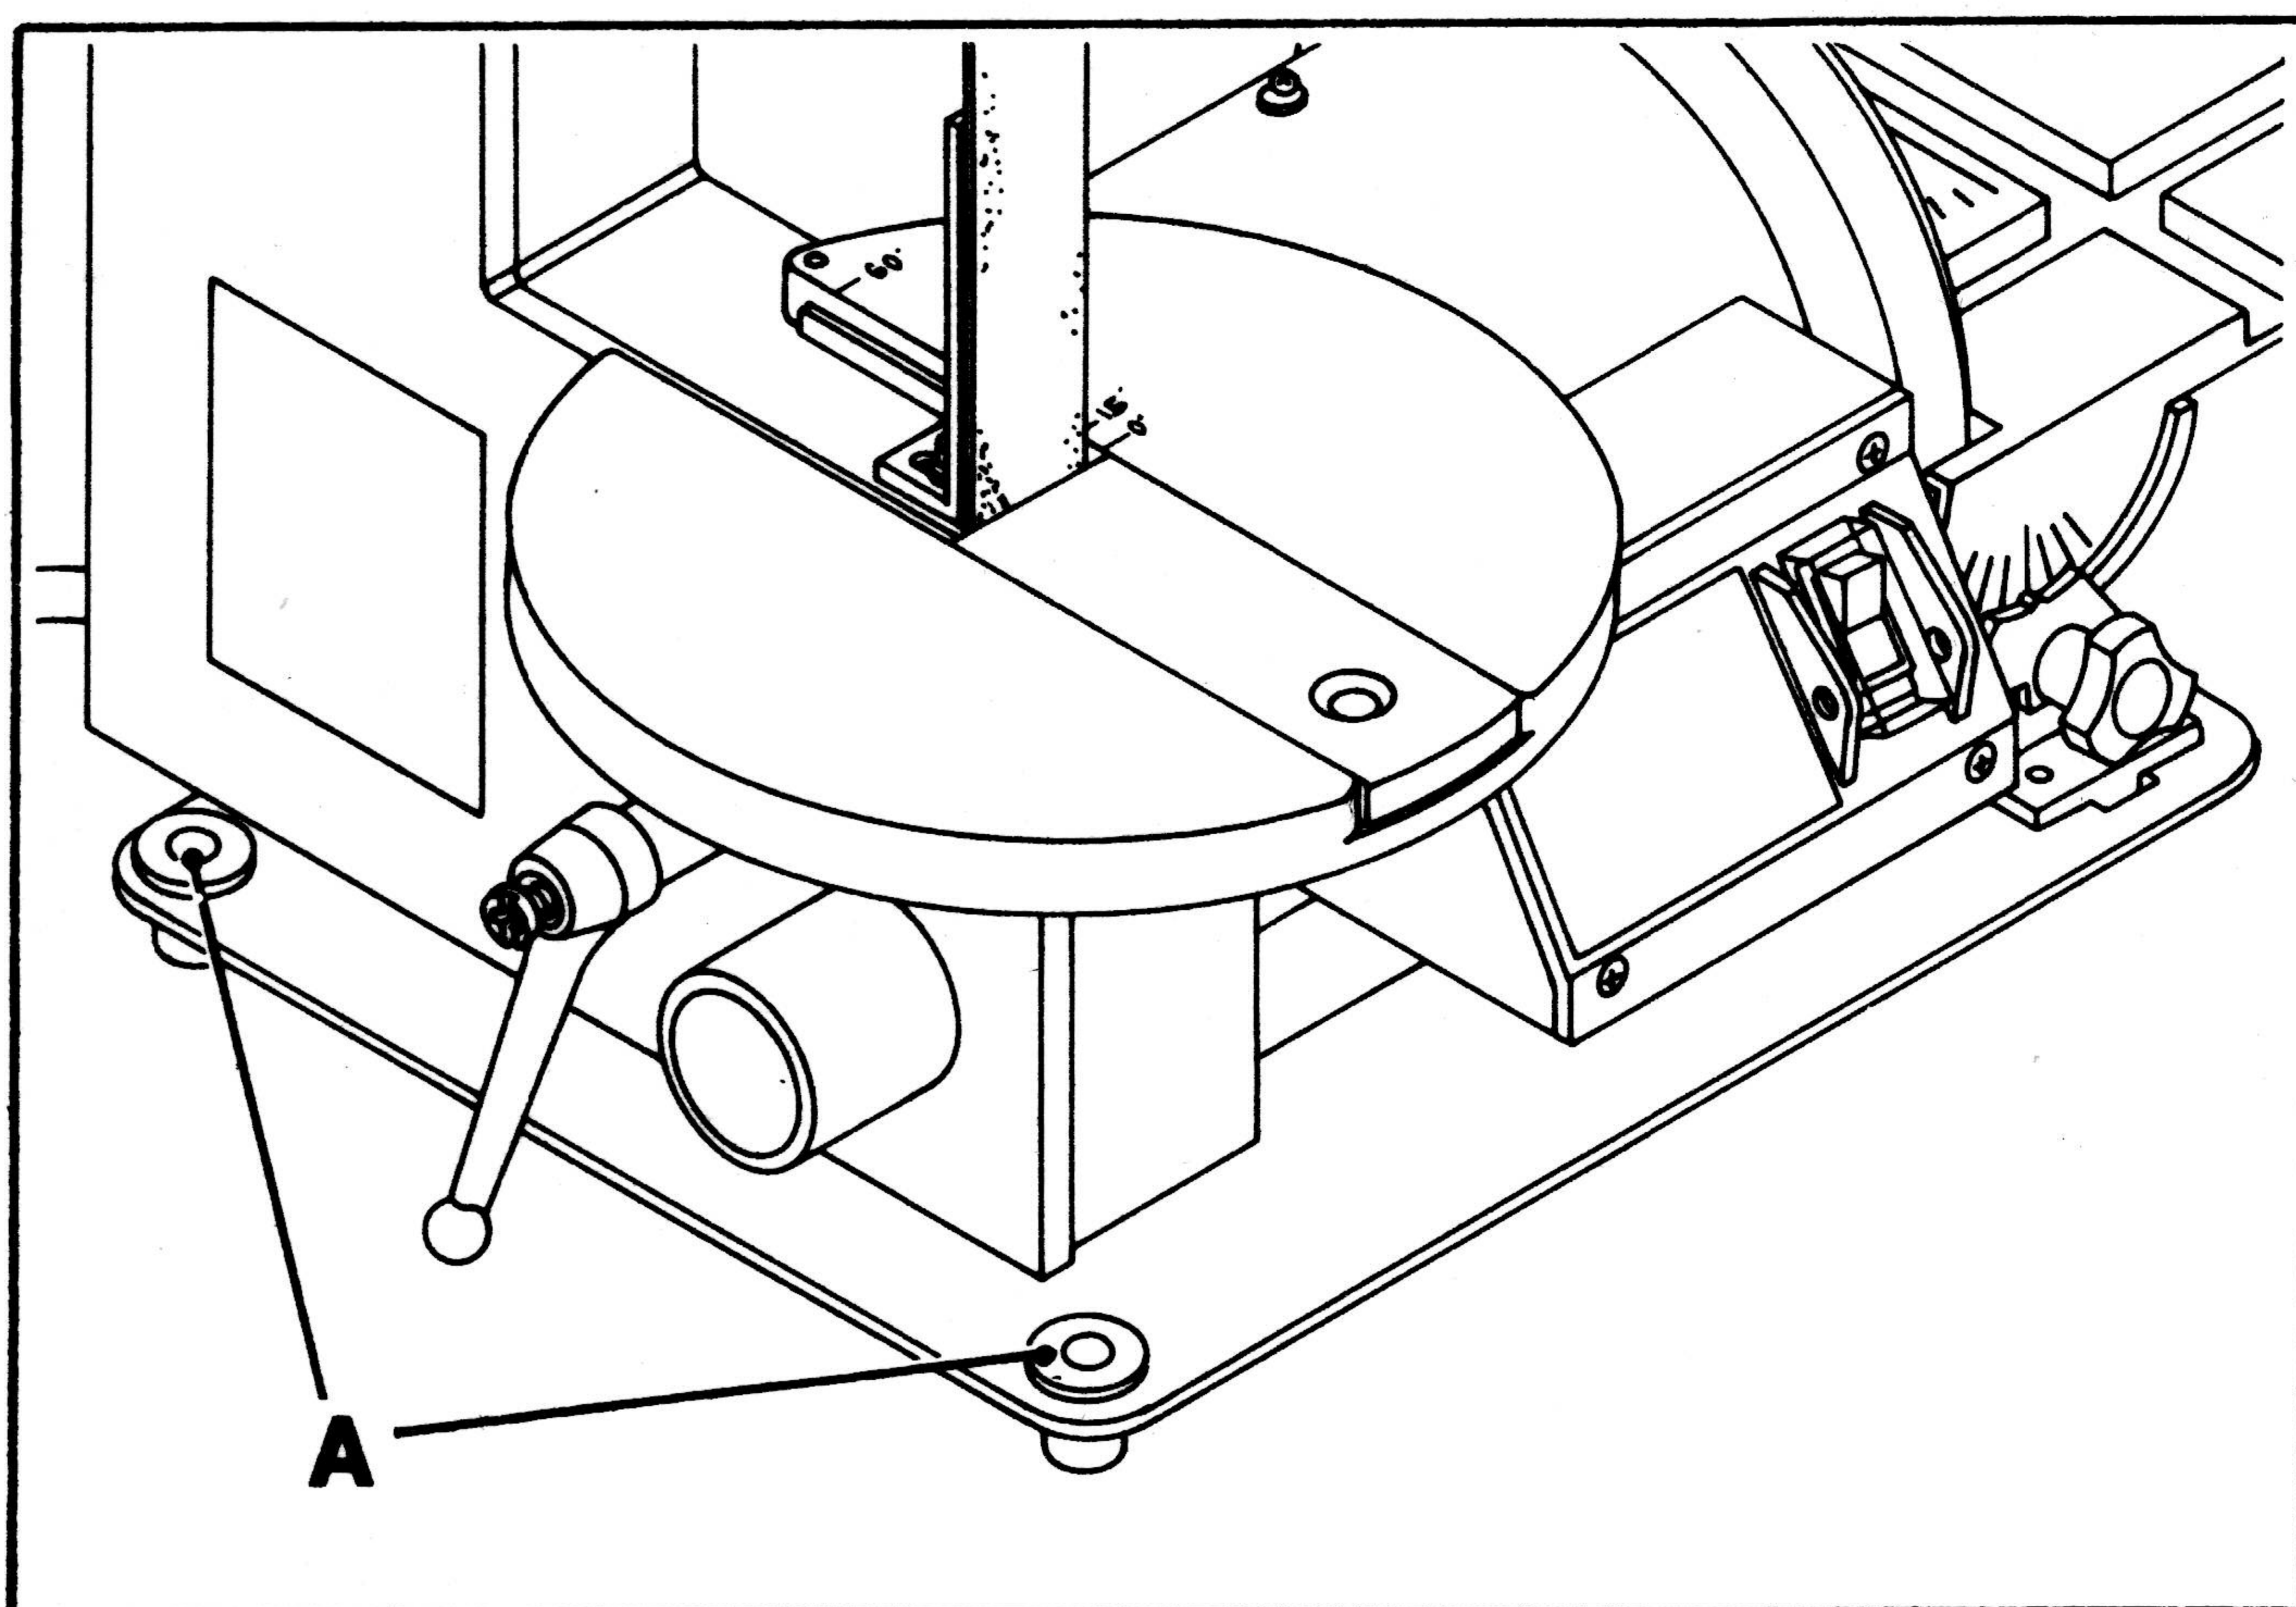

Fig. 8
IMPORTANT: If during operation there is any tendency for the sander to tip over, slide or walk on the supporting surface, the sander must be secured to the supporting surface using the four holes, two of which are shown at (A) Fig. 8.